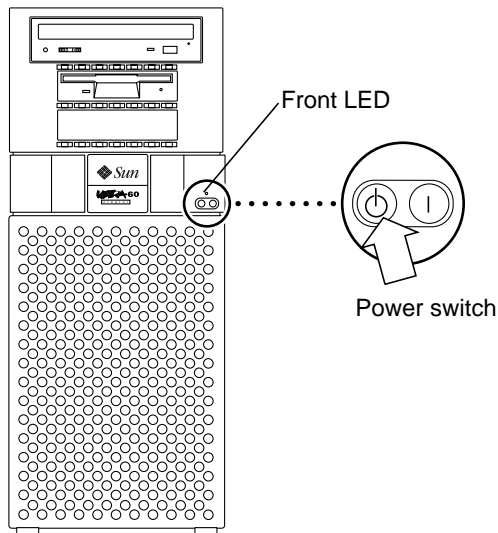

FIGURE 1 Power Switch and Front Panel LED
- 5. Move the power on/standby switch to the Off position (FIGURE 1).**
- b. **Press the power switch on the front panel of the workstation and release it (FIGURE 1).**